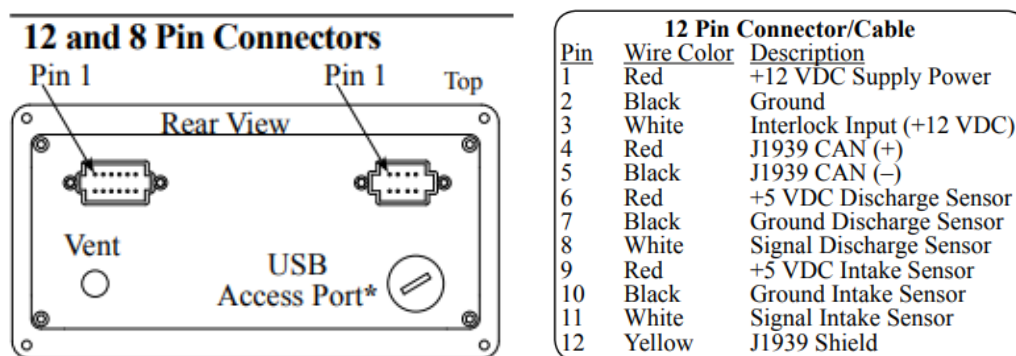

Figure 4.1
- 1) Connect the power wire from the alarm to Pin 1 on the 12-pin governor connector. See Figure 4.1